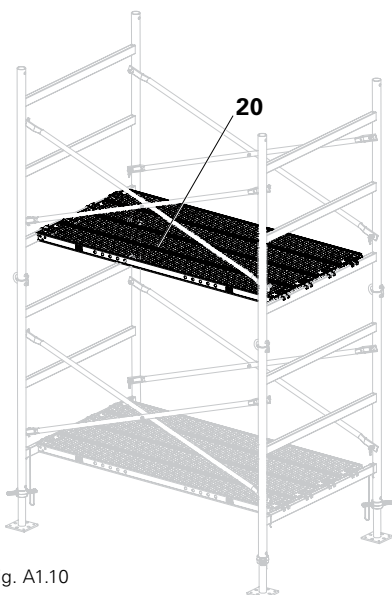

Fig. A1.10
4. For assembling the next higher level, install assembly decks. (Fig. A1.10)
When assembling additional levels, decks (20) from the penultimate level can be removed and used for the next level. If necessary, install additional decking levels. (Fig. A1.10 to A1.13)